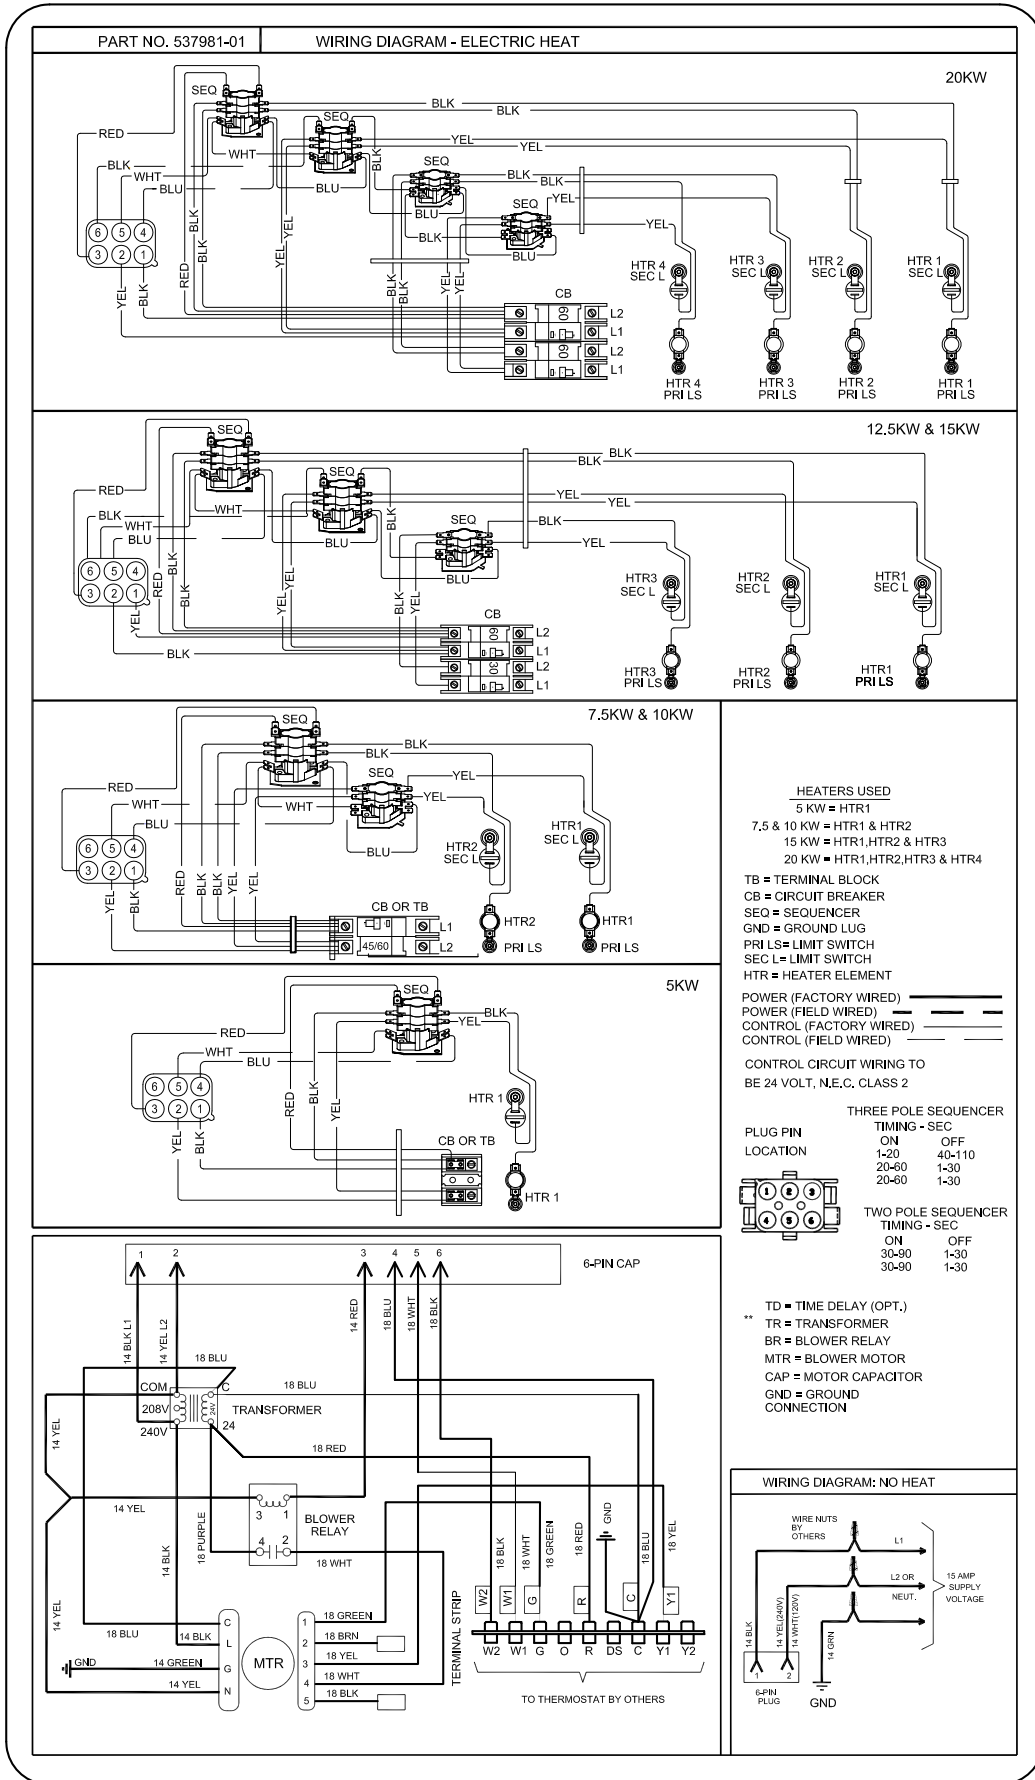

Figure 14. Typical Wiring Diagram – BCE5E Air Handler with Electric Heat – (Constant Torque Motor)
- Typical unit wiring (as well as wiring of optional field-installed electric heat) is given in Figure 14. Refer to the instructions provided with the electric heat section for proper installation.